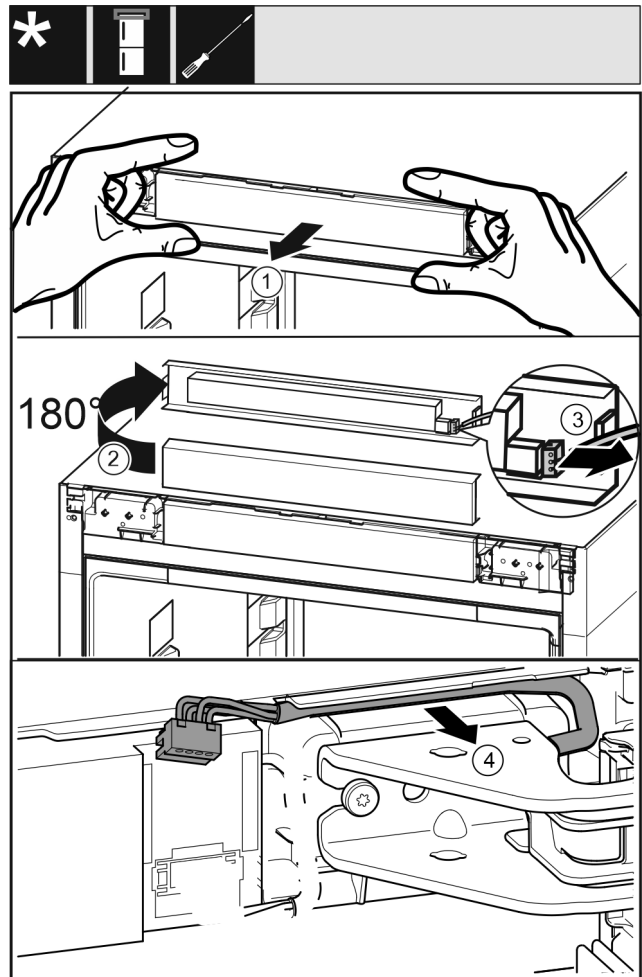

Fig. 21
- ▶ Carefully loosen the control plate Fig. 21 (1) toward the front.
- ▶ Turn the control plate Fig. 21 (2) upward by 180°.
- ▶ Press the latching tab Fig. 21 (3) backwards and carefully pull out the plug.
- ▶ Carefully loosen the cable Fig. 21 (4) above the swap bearing block from the guide.